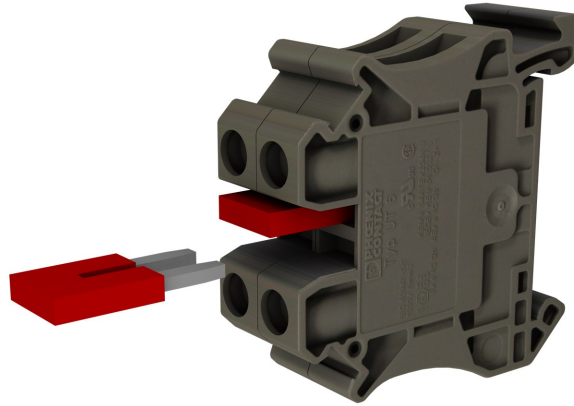
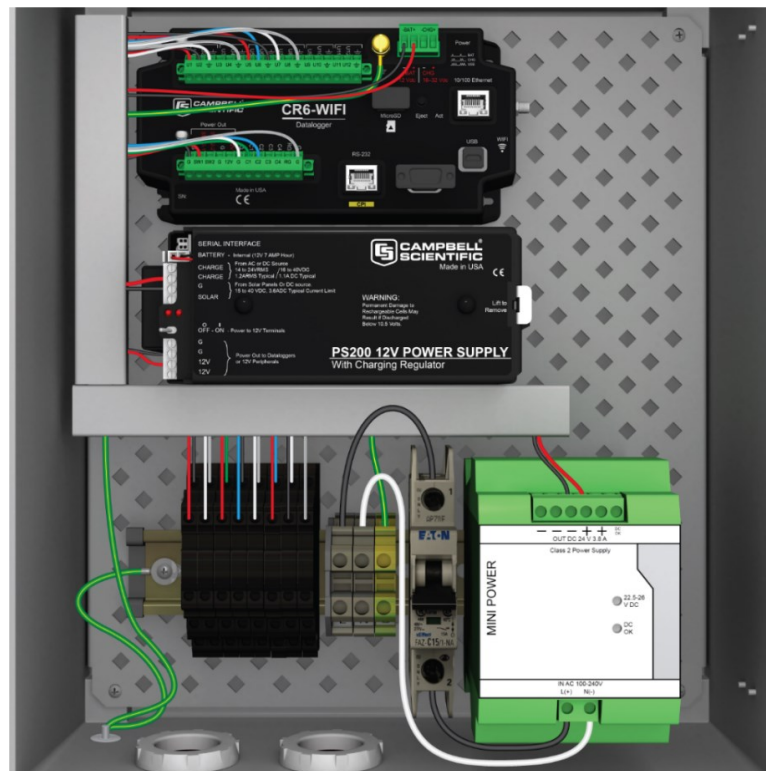

FIGURE 6-7. Attaching wire jumpers
FIGURE 6-8. Wiring the DIN-rail components to other equipment in the enclosure
- Attach wire jumpers between the DIN-rail components and other equipment inside the enclosure. If it is necessary to use jumpers to join two components, press each jumper firmly into the receptacles on each component (FIGURE 6-7 (p. 13)). To keep the enclosure organized, wiring ducts with covers are available to keep the loose wires gathered together (FIGURE 6-8 (p. 13)).